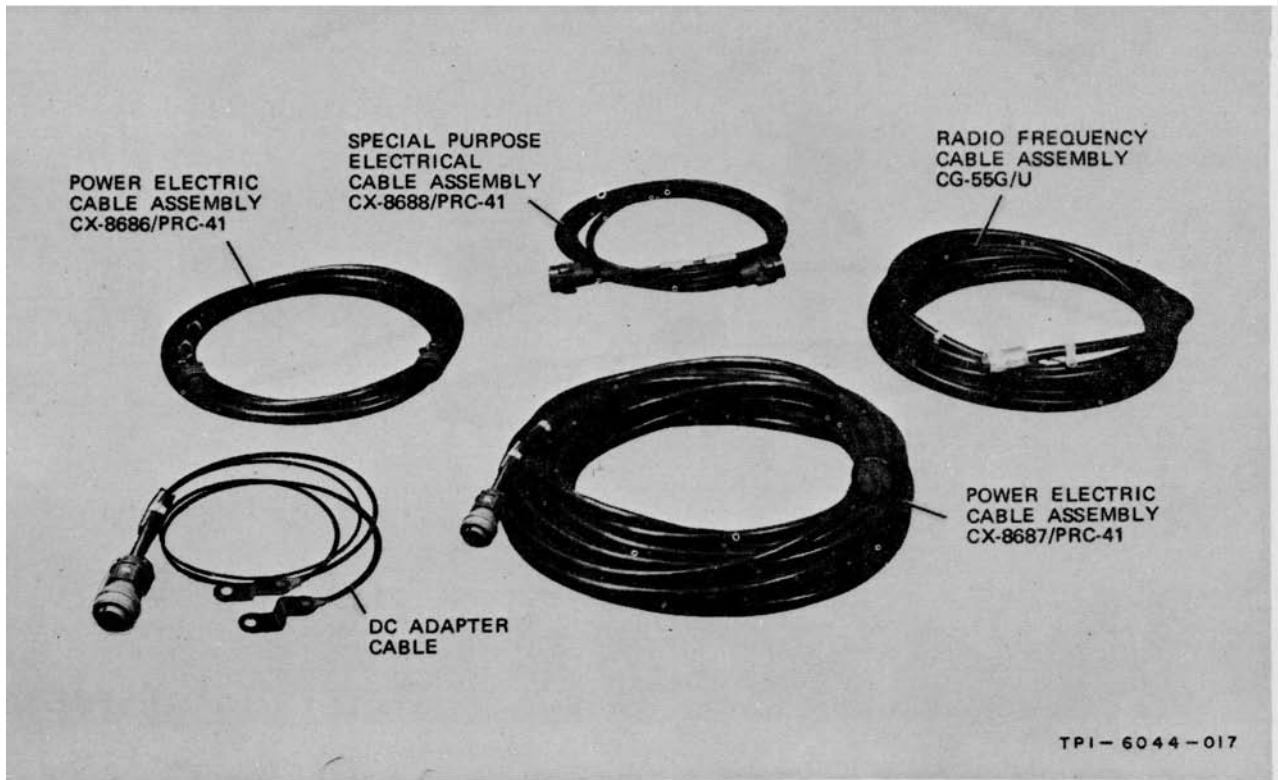

Figure 1-11. Cable Assemblies
(6) RADIO FREQUENCY CABLE ASSEMBLY CG-55G/U. (Refer to figure 1-11.) - Radio Frequency Cable Assembly CG-55G/U is a 20-foot length of RG-213/U coaxial cable with mating connectors used for connection between the antenna connector on the front panel of RT-695A/PRC-41 and AS-1405/PRC-41 or AS-1404/PRC-41 with adapter UG-29B/U.
(7) POWER ELECTRIC CABLE ASSEMBLY CX-8686/PRC-41. (Refer to figure 1-11.) - Power Electric Cable Assembly CX-8686/PRC-41 is a 10-foot length of a 3-wire electrical cable with mating connectors used for connection of Power Supply PP-3700/ PRC-41 to Mounting MT-2976/PRC-41 or to dc maintenance adapter for RT-695A/PRC-41 when CY-3884/ PRC-41 is removed.
(8) POWER ELECTRIC CABLE ASSEMBLY CX-8687/PRC-41. (Refer to figure 1-11.) - Power, Electric Cable Assembly CX-8687/PRC-41 is a 50-foot length of 3-wire cable with suitable mating connectors used to connect Power Supply PP-3700/PRC-41 to 115-volt, 50- to 400-Hz primary supply.
(9) SPECIAL PURPOSE ELECTRICAL CABLE ASSEMBLY CX-8688/PRC-41. (Refer to figure 1-11.) - Special Purpose Electrical Cable Assembly CX-8688/PRC-41 is a 10-foot length of 7-conductor cable with suitable mating connectors used to connect the H33E/PT connector on one Radio Receiver-Transmitter RT-695A/PRC-41 to the H33E/PT connector on another RT-695A/PRC-41 for automatic relay operation. Refer to paragraph 2-4e of the Installation and Operation Technical Manual for Radio Set AN/PRC-41A. NavShips 0967-872-5010.
(10) DC ADAPTER CABLE. (Refer to figure 1-11.) - The dc adapter cable is a 2-wire cable with a suitable connector on one end and terminal lugs on the other, and is used in a vehicular installation to connect power between the vehicle dc power source and the rear connector of Mounting MT-2976/PRC-41 through Special Purpose Electric Cable Assembly CX-8688/PRC - 41.